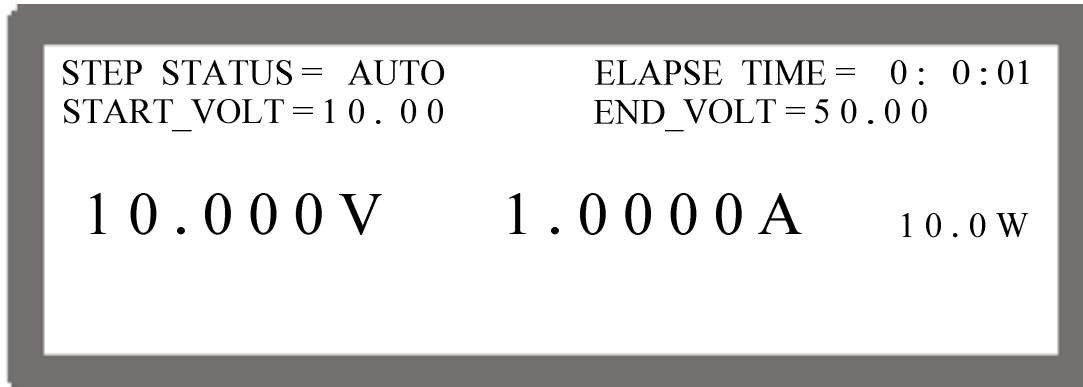

Figure 4-23
2. Press “” one more time to confirm the execution. It will skip to the MAIN PAGE during execution as shown in Figure 4-23. To quit the execution, pressing “” will return to the MAIN PAGE window at standby.